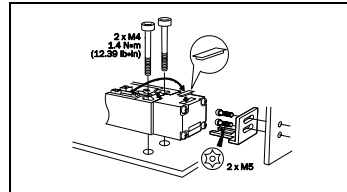

Fig. 1: Mounting of the safety switch
- Tighten the safety switch using 2 x M4 screws to 1.4 Nm (see Fig. 1).